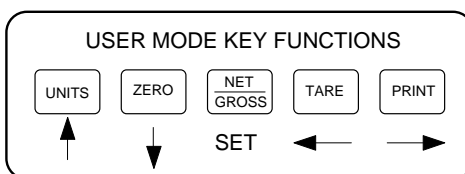

Figure 5-1: User Menu Key Assignments
3. Use the four directional keys (shown in Figure 5-1 below) to adjust the displayed value to the actual ID Number value. Increase the flashing digit by pressing the **UNITS** key. Decrease the flashing digit by pressing the **ZERO** key. Pressing the **PRINT** key or the **TARE** key will change the position of the flashing digit.
3. Use the four directional keys (shown in Figure 5-1 above) to adjust the displayed value to the actual line feeds value. Increase the flashing digit by pressing the UNITS key. Decrease the flashing digit by pressing the ZERO key. Pressing the PRINT key or the TARE key will change the position of the flashing digit.
3. Use the four directional keys (shown in Figure 5-1 above) to adjust the displayed value to the actual time value. Increase the flashing digit by pressing the UNITS key. Decrease the flashing digit by pressing the ZERO key. Pressing the PRINT key or the TARE key will change the position of the flashing digit.
3. Use the four directional keys (shown in Figure 5-1 above) to adjust the displayed value to the actual date value. Increase the flashing digit by pressing the UNITS key. Decrease the flashing digit by pressing the ZERO key. Pressing the PRINT key or the TARE key will change the position of the flashing digit.